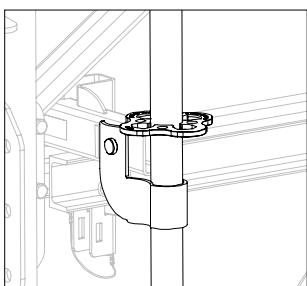

Fig. B6.02a
1. Place Standard UVR 300 (46.1) (for VST 175: Standard UVR 150 (46.2)) with the rosette on the Connector UP-VST (38).
2. Mount retaining lug (38.1) to the bottom Connector UP-VST (38) using Bolts Ø 20 x 140 (39) and secure with Cotter Pins 4/1, galv.
3. Mount retaining lug (38.1) to the top Connector UP-VST (38) using Bolts Ø 20 x 140 (39) and secure with Cotter Pins 4/1, galv.
Here, the rosette has to rest on the Connector UP-VST (38) in order to safely transfer the forces. (Fig. B6.02a)